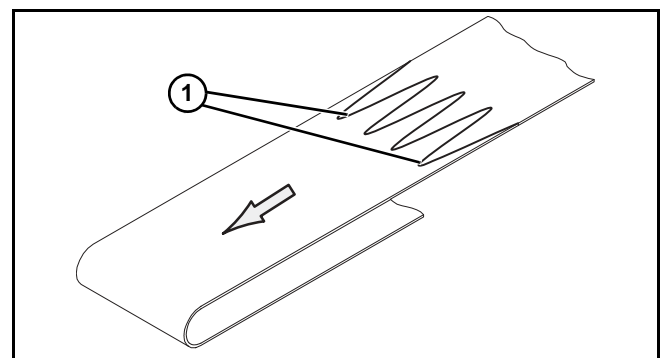

**Figure 70**
On a center drive conveyors, belt travel direction is identified by an arrow decal on the side of the conveyor (**Figure 69, item 1**) & (**Figure 70, item 1**).
1. Orient the conveyor belt so that the splice leading fingers (**Figure 71, item 1**) point in the direction of belt travel, indicated by the label (**Figure 70, item 1**).